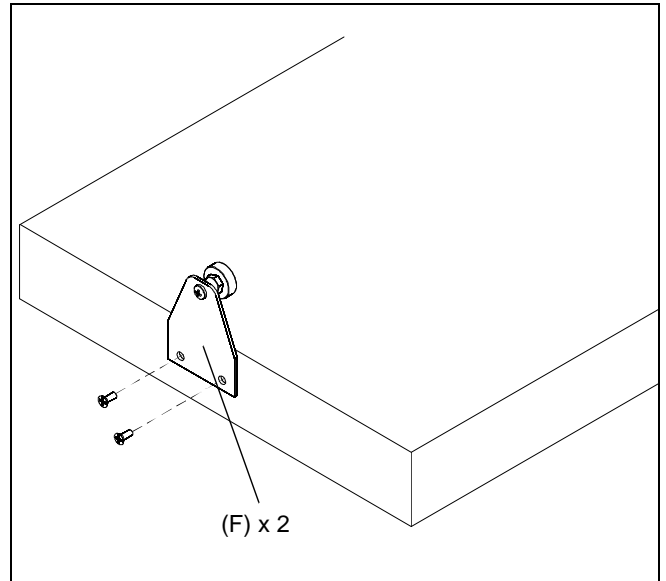

Figure 5
3. Attach one guidewheel plate (F) to bottom center of each door. (See Figure 5)